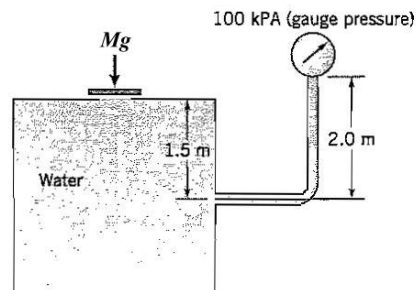

Figure P2.10
2.10 Find the maximum possible diameter of the circular hole so that the tank shown in Figure P2.10 remains closed. The lid has a mass $M = 50 \text{ kg}$.